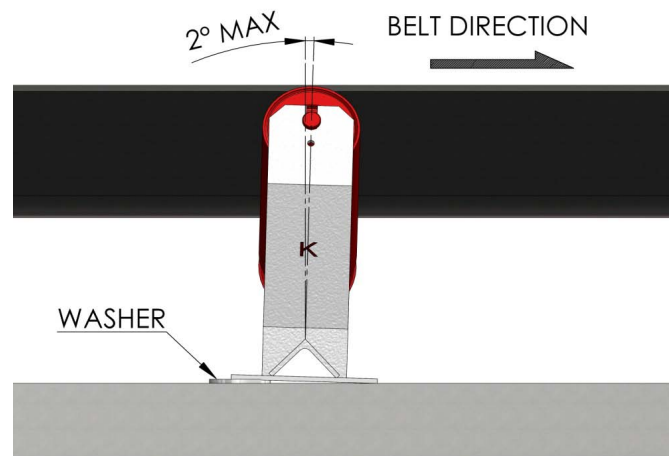

Figure 2.7 (above)
- In figure 2.7 another technique is used to help aid belt tracking. This is unbiased to a particular side.